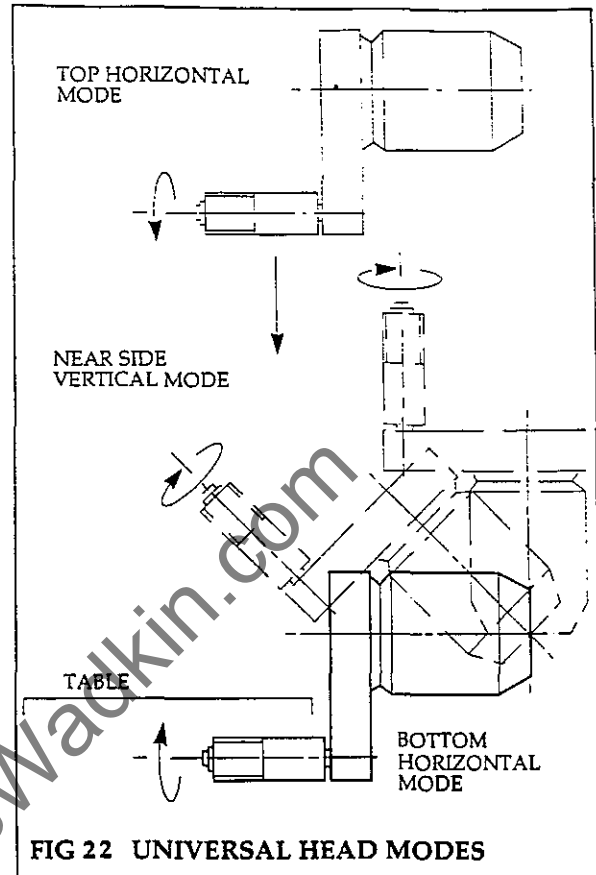

FIG 22 UNIVERSAL HEAD MODES
**NOTE:** Check direction of spindle rotation before commencing work (see fig 22)